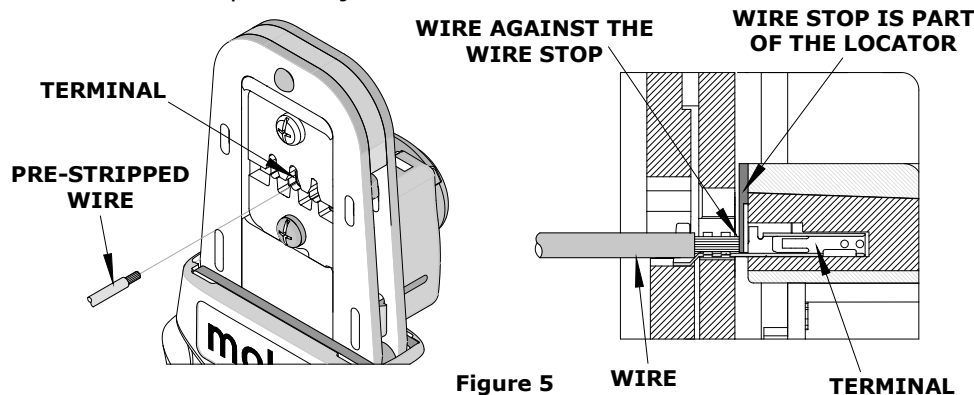

Figure 5
- Insert the properly stripped wire through the terminal and against the wire stop. See Figure 5.